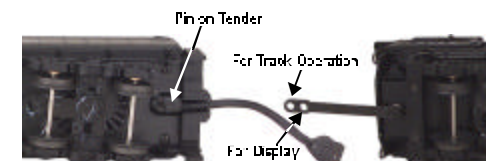

Figure 1b. Purposes of the Two Holes on the Engine Draw Bar.
5. Connect the draw bar between the engine and tender. The draw bar hole located farthest from the tender is for applications such as display. The second hole is for normal operation on O-72 track (see figure 1b).